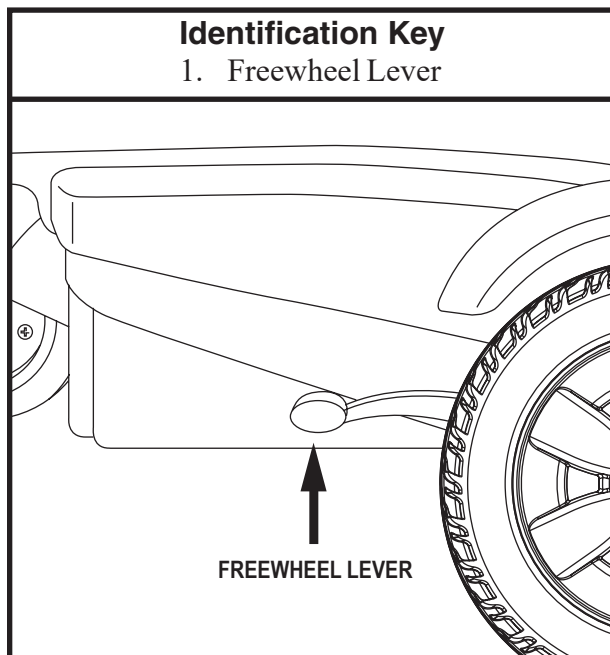

Figure 7. Drive Mode (Drive Engaged)
2. Pull both levers upward to engage the drive motors (drive mode). See figure 7.
2. Ensure the power chair is in drive mode. See figure 7.